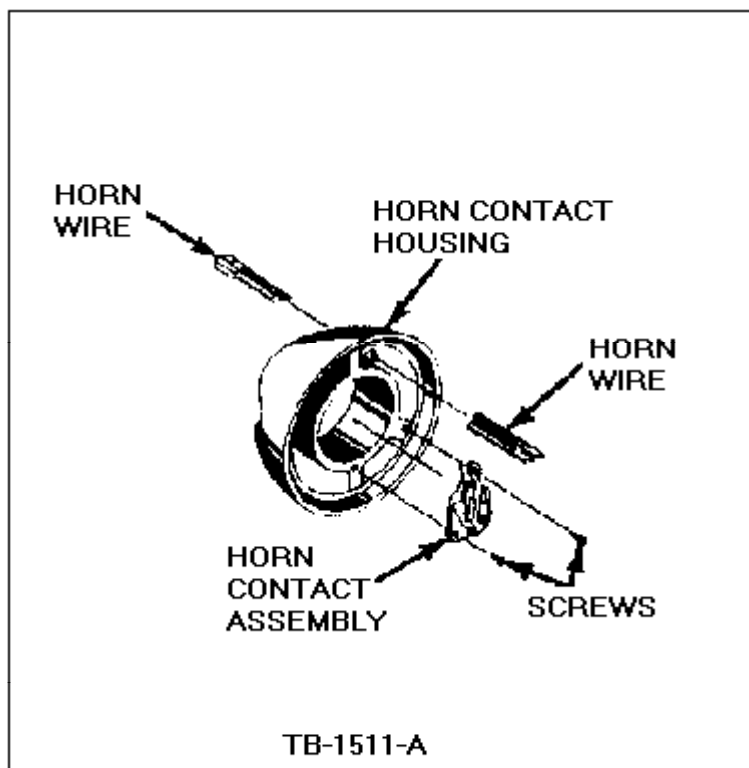

Figure 44 - Article 90-5-10
58. Install the upper end of the horn wire into the horn contact housing wire hole from the lower end and attach the two (2) horn wire terminals to the horn contact terminals, Figure 44.
59. Attach the horn contact to the horn contact housing with two (2) screws, Figure 44. Tighten the